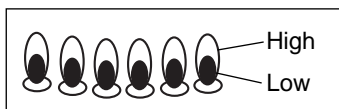

Figure 8
1. Light burner and turn the Temperature Control Knob from HIGH to LOW. Check the flame through the Flame Viewing Hole making sure the burner is lit. See Figure 8.